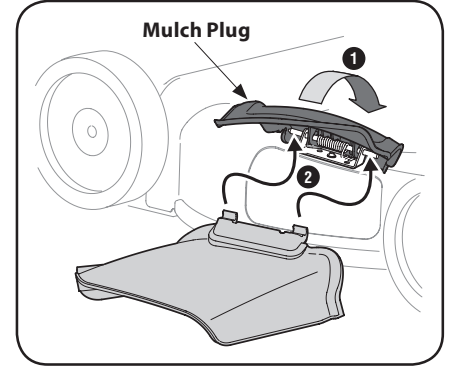

Figure 2-10
- On the side of the mower, lift the mulch plug. See Figure 2-10.